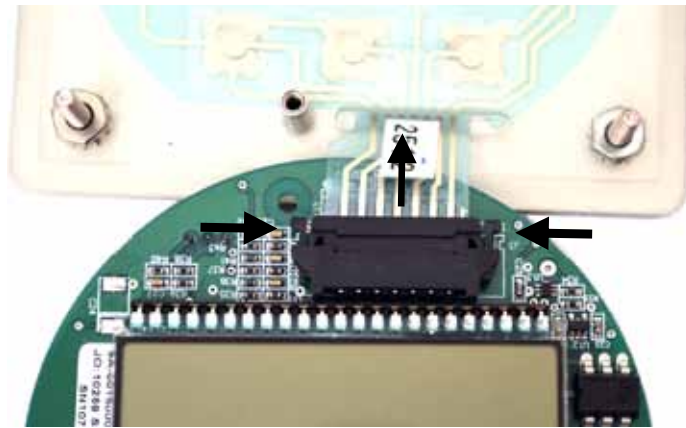

Figure 6.4—To release the ribbon cable from the connector, press in on the side tabs of the connector and gently pull forward (top arrow).
- a. Grasp the black clip between a thumb and forefinger (see arrows in Figure 6.4, page 91).